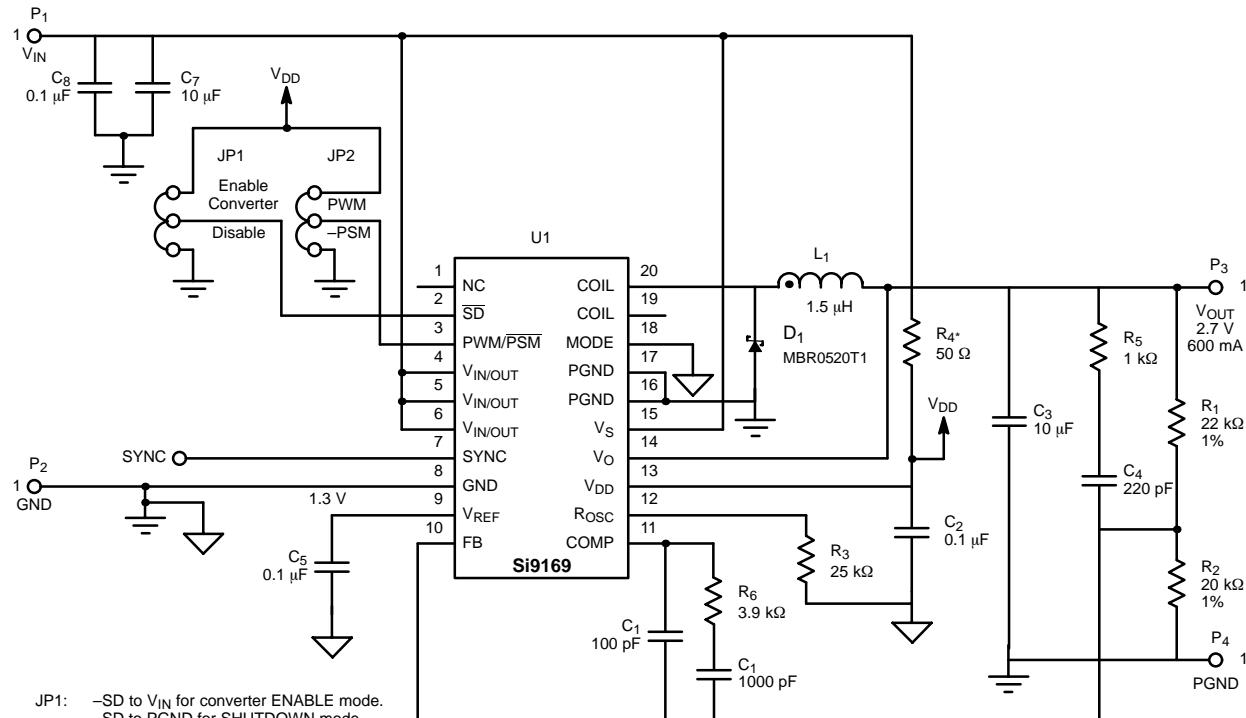

FIGURE 1. Schematics of Si9169 Buck
There are two different version of demo boards (DB), buck and boost converters, because the Si9169 can be easily configured to buck or boost modes. The demo board has been configured to generate 2.7-V regulated output for buck DB while for boost DB is 3.6 V. The output voltage set point can be easily adjusted by changing the value of R₂ (See Figure 1) using the formula